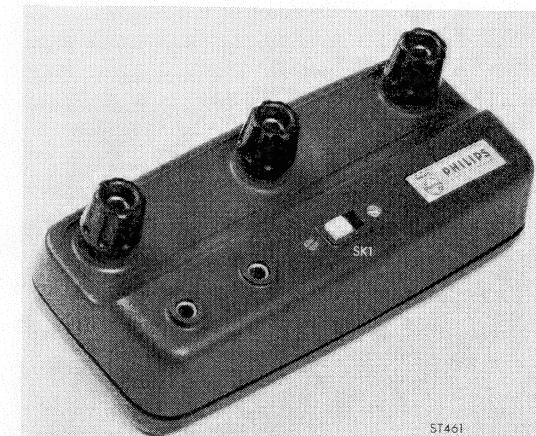

Fig. 4.
**III-2.3. Shunt PM 9244 (Fig. 4, page 36)**